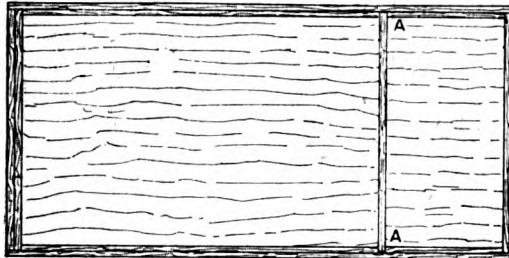
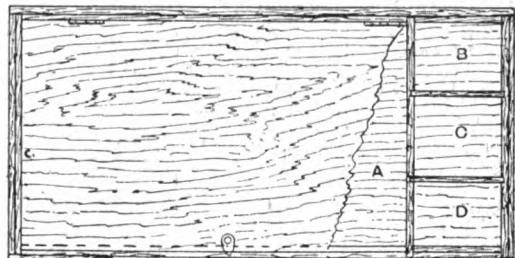
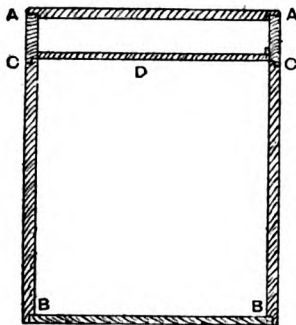
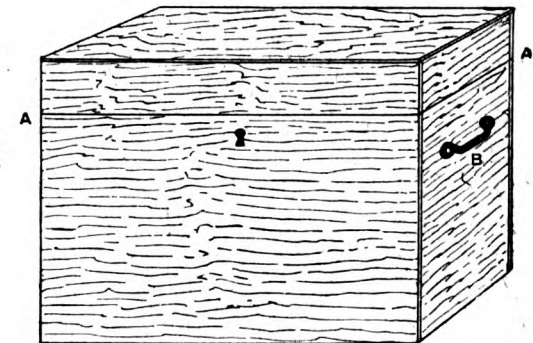

FIG. 1
FIG. 5 E
FIG. 2
FIG. 4
Under the top A are fixed three strips G,  $\frac{1}{2}$  in. deep by  $\frac{1}{2}$  in. thick, into which the wires are fixed. The two side strips are  $3\frac{1}{2}$  in. long, and the front one  $5\frac{1}{2}$  in. long. The seed trough is formed by fixing two pieces the shape shown in Fig. 3. The bottom part H is  $1\frac{1}{2}$  in. wide,  $3\frac{1}{2}$  in. long, and  $\frac{1}{2}$  in. thick, and the front J  $1\frac{1}{2}$  in. deep,  $3\frac{1}{2}$  in. long, and  $\frac{1}{2}$  in. thick; both pieces are fixed by tacks through the back, the front, and the side. The wiring can be done before the strips G are inserted. The wires are fixed in the pieces G, and then let into holes drilled in the sides and the front. About 13 ft. of wire will be sufficient. Twenty-three pieces,  $\frac{1}{2}$  in. long, should be cut and let into the pieces G, the sides D, and the front F, for about  $\frac{1}{2}$  in., leaving about  $3\frac{1}{2}$  in. showing. All the front wires and eight at the left side, are of the same length (see Fig. 1); the three centre ones are cut to suit. The door consists of two pieces,  $\frac{1}{2}$  in. deep,  $\frac{1}{2}$  in. thick, and  $3\frac{1}{2}$  in. long, joined by wires, as shown in Fig. 2. All the wires for the door, excepting the two long ones shown, are about  $3\frac{1}{2}$  in. long. The others are longer, the right-hand one to form the hinge, and the left-hand one K to fasten the door. The perch,  $\frac{1}{2}$  in. wide,  $\frac{1}{2}$  in. thick, and  $3\frac{1}{2}$  in. long, is fixed to the back and the front. No movable tray is shown, but this can be inserted if required. The water-pot is shown complete by Fig. 4, and is made of tin, the side L being cut to the shape shown in Fig. 5. This is  $4\frac{1}{2}$  in. wide at the top,  $3\frac{1}{2}$  in. wide
**Fisherman's Box.**—Very convenient dimensions for the watertight fishing box here described in detail would be length, 15 in.; width, 9 in.; and depth, 12 in.; a box of this size would be found to be fairly comfortable when used as a seat. The box may be made of pine full  $\frac{1}{2}$  in. thick, or of  $\frac{1}{2}$ -in. mahogany, which will clean up to  $\frac{1}{4}$  in. thick when finished. Prepare two pieces for the front and back 15 in. long by 12 in. wide, plane them up and square the ends, then work a rebate on the bottom edges and at the ends  $\frac{1}{4}$  in. deep and of a width equal to the thickness of the stuff. The ends are next prepared and cleaned up to 12 in. by 8 $\frac{1}{2}$  in., and a rebate is worked on the bottom edge. Now cover the joints with some good glue, then nail the sides on to the ends with  $\frac{1}{2}$ -in. brads or panel pins. If the box is to be provided with a partition as shown by Fig. 1, grooves  $\frac{1}{4}$  in. deep should be worked at A before the box is nailed together. The joints are shown in the illustrations half-lapped together, but of course a better job would be made by dovetailing them. When the glue is thoroughly dry the nails are punched in below the level and the joints cleaned off
with the plane. A piece of stuff equal to the size of the top is next prepared and rebated  $\frac{1}{4}$  in. all round to fit in as shown at A in Figs. 2 and 3, then the edges are coated with glue and the lid is nailed on. The method of fitting the bottom into the rebates prepared in the sides and ends is shown at B (Figs. 2 and 3), and when this has been nailed in and the box is dry, the box may be cleaned off with the plane and sandpapered up. A marking gauge is now set to  $1\frac{1}{2}$  in. and the line for the joint of the lid is scribed on as shown at A (Fig. 4), and the box may be cut in two along this line with a fine-toothed tenon saw. In Figs. 2 and 3 a rebated joint is shown between the lid and box at C, the object of this being to keep rain from penetrating; but to fit the lid on in this manner it will be necessary to make the parts separate and fit them together. The partition dividing the body of the box at A (Fig. 1) may now be fixed and the lid, if desired, fitted with a tray and partitions for carrying fishing tackle. A useful arrangement for this is shown by Fig. 5. The inside of the lid is fitted with a hinged flap which is shown in section at D (Figs. 2 and 3), and the space between this and the lid is divided into convenient compartments for hooks, lines, etc. Fig. 5 gives a view looking into the lid when open, and a portion of the flap is broken away at A to show some of the divisions B, C, and D. The flap may be secured as shown at E with a turnbutton made out of a piece of  $\frac{1}{2}$ -in. brass plate secured with a round-headed No. 6 wood screw. The lid can now be hung to the body of the box with a pair of 2-in. by  $\frac{1}{2}$ -in. brass butt hinges, and a strong lock can be fitted